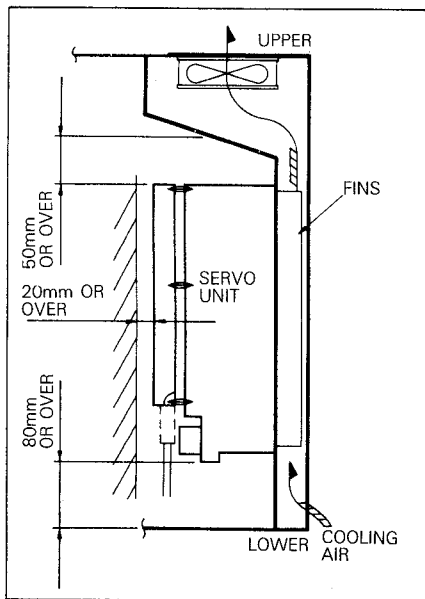
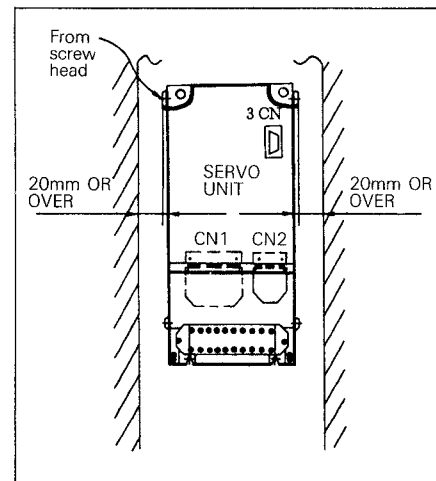

Fig. 5.1 Mounting of Servo Unit (Side View)
Fig. 5.2 Mounting of Servo Unit (Front View)
- (1) The servo unit is a wall-mounted type and should be secured with screws or bolts vertically (so that the printed circuit boards can be seen from the front). (See Fig. 5.1.)
- (2) Mount the servo unit so as to allow easy checking, removal and reinstalling during maintenance work.
- (3) The servo unit generates some amount of heat. Allow for some space in the upper and lower sides when mounting other units and components so that heat will not saturate the inside the unit. (See Fig. 5.2.)
- (4) Expose the radiator fin outside the cabinet and allow the outside air to blow on it to reduce internal thermal loss. (See Fig. 5.1.)